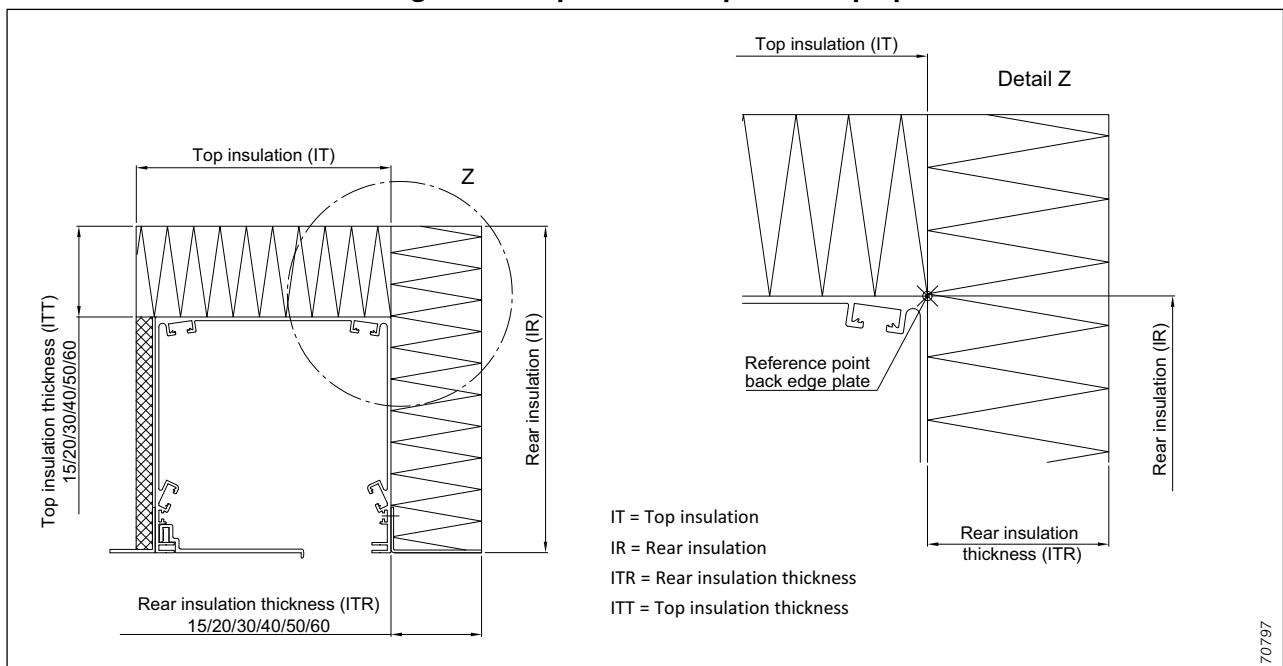

fig. 53: Dimension determination using the example of cover panel shape plaster
1. The reference point  is located at the cover panel back edge in general, see fig. 53, detail Z